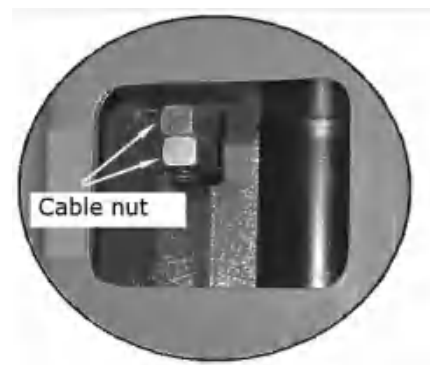

Fig. 43
1. Adjustment of synchronous cable (See Fig. 43)